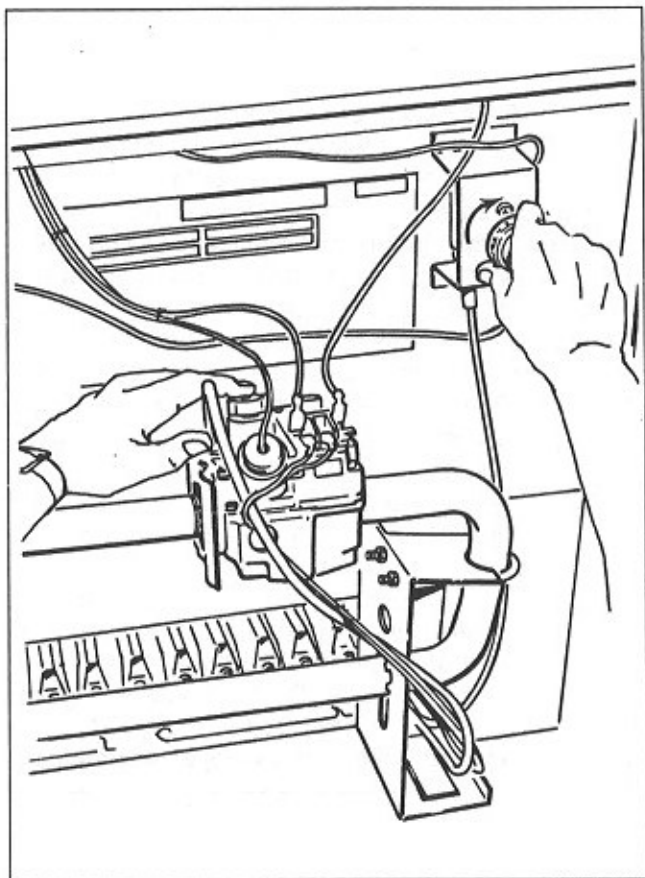

Figure 13. Lighting the Pilot
4. To light the pilot, push the gas valve control knob down and rotate the sparker knob (see Fig. 13).